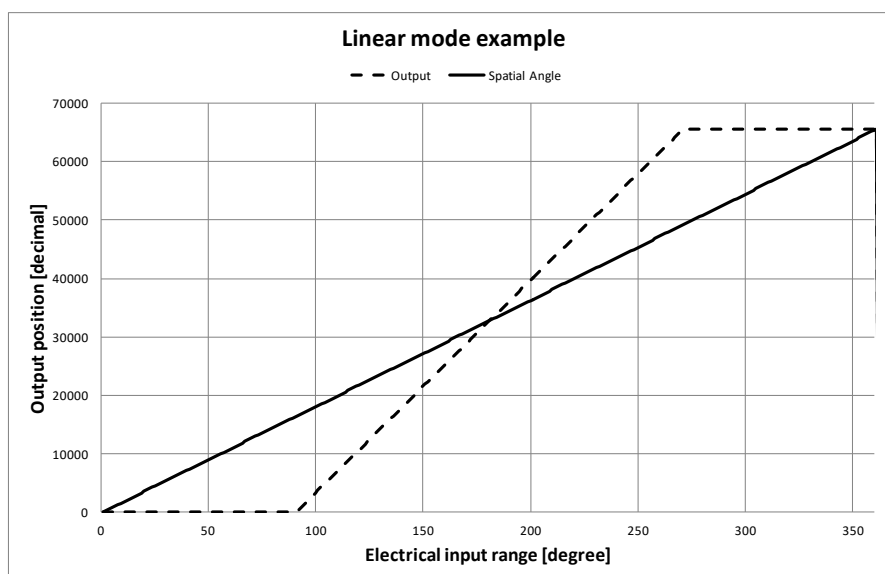

Figure 26. Linear Output Mode Example with Slope = 2, Offset = 90°
- Linear: The Linear Output Mode is a non-repeating output mode in which the sensor output signal is clamped at the mechanical end points (see Figure 26).